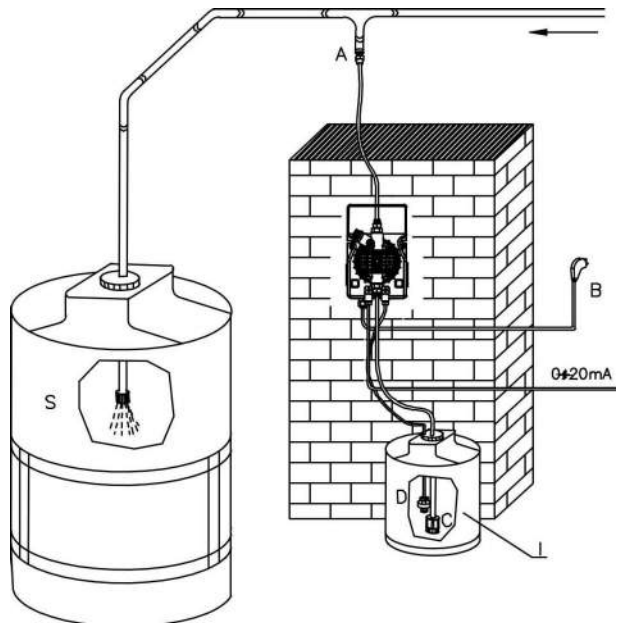

Fig. 14
6.2 - TYPICAL INSTALLATION (Fig. 14)